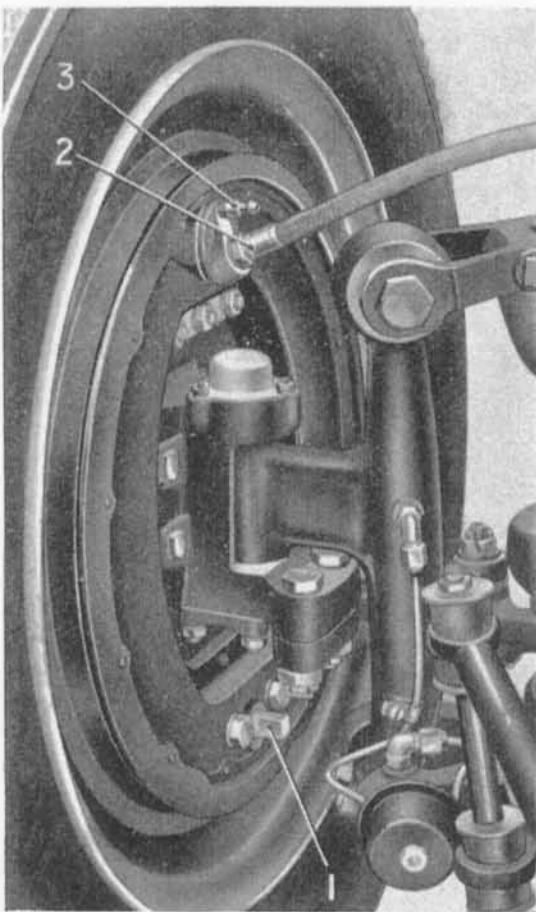
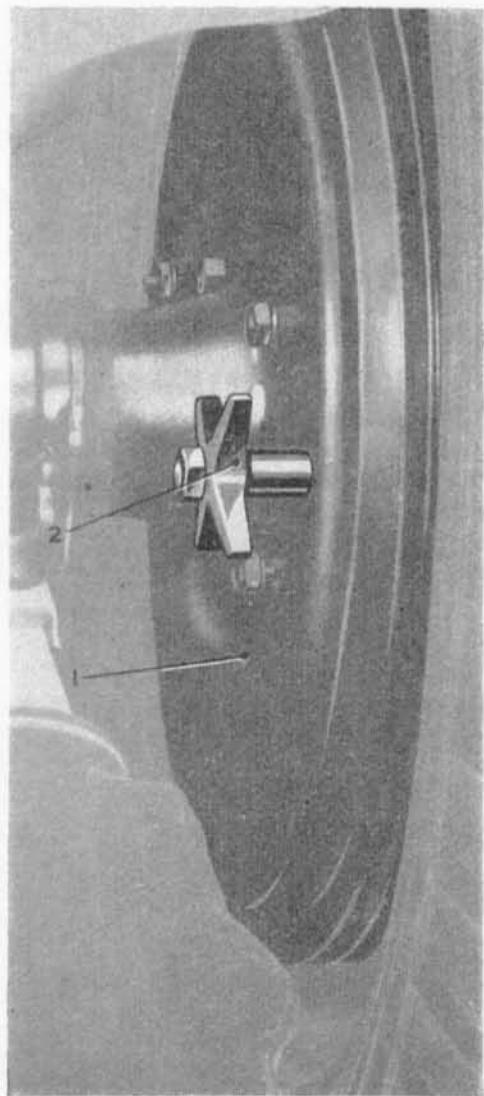
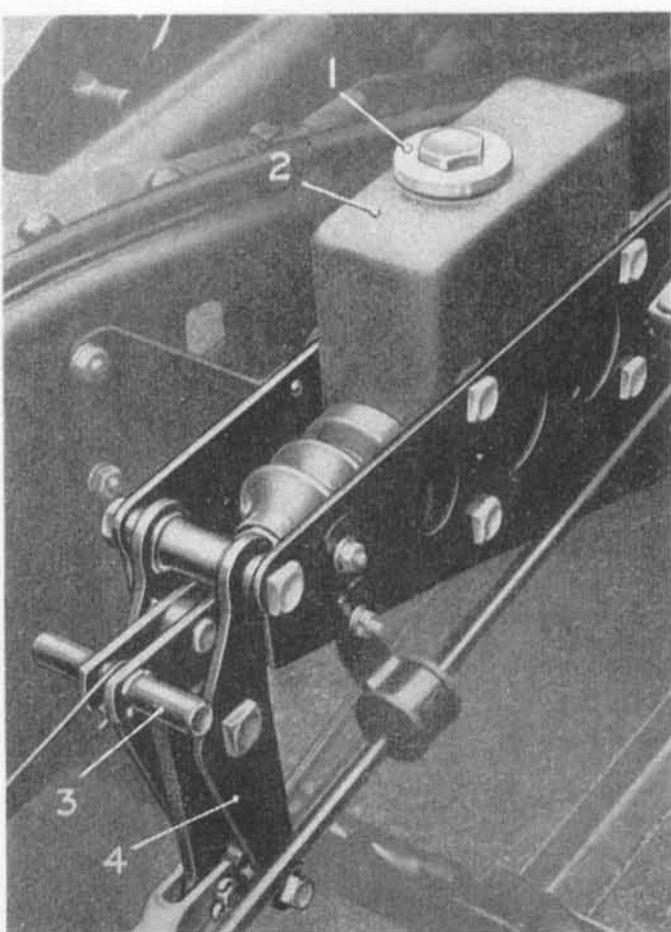

Fig. 18.—FRONT BRAKE ADJUSTMENT.
Fig. 19.—REAR BRAKE ADJUSTMENT.
Fig. 20.—THE HYDRAULIC MASTER CYLINDER AND RESERVOIR.
The method of adjustment is the same for both front and rear brakes, with the exception that a hand wheel is provided on the rear brake adjusters, while a $\frac{1}{4}$ " B.S.F. open-ended spanner must be used on the squared end of the front brake adjusters. The rear adjusters (2, Fig. 19) are located forward of the axle tubes, and the front adjusters (1, Fig. 18) directly below the steering pivot pins.
1. Attach a clean rubber drain tube to one front brake bleeder screw (3, Fig. 18), and immerse the other end in a clean glass jar in which there is sufficient hydraulic brake fluid to submerge the end of the tube.
2. Release the bleeder screw (3) half to one turn.
3. Remove the filler plug (1, Fig. 20) and fill the reservoir integral with the master cylinder, with the recommended fluid. (See page 28.)
4. Push the joint forward until the extended pin (3) abuts against the master cylinder support brackets (4).